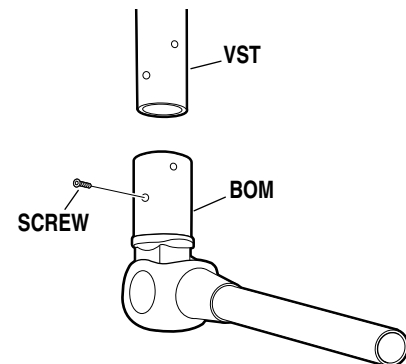

Figure 4. Balance Mechanism
- a. Install the VST on the BOM, apply Loc-Tite to screw threads and secure VST with the allen screws provided. See figure 4.